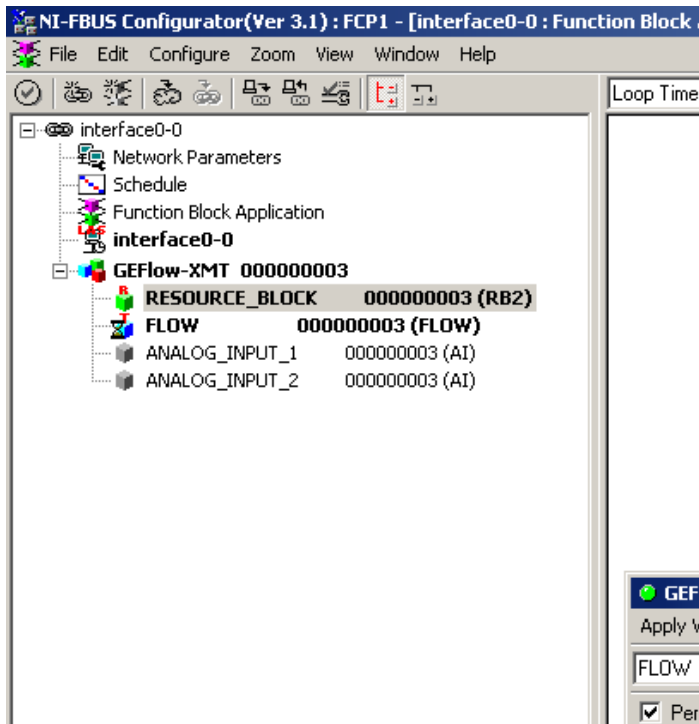

Figure 59: Configuration utility setup Example
Figure 59 below shows the configuration utility with a flowmeter on the network (Panametrics flow-XGF).
1. Double click on the AI block for which you wish to set the units (ANALOG\_INPUT\_1 or ANALOG\_INPUT\_2 in the tree under GEFlow-XGF; see *Figure 59 on page 86*).
1. Double click on the FLOW transducer block (in the tree under GEFlow-XGF; see *Figure 59 on page 86*).